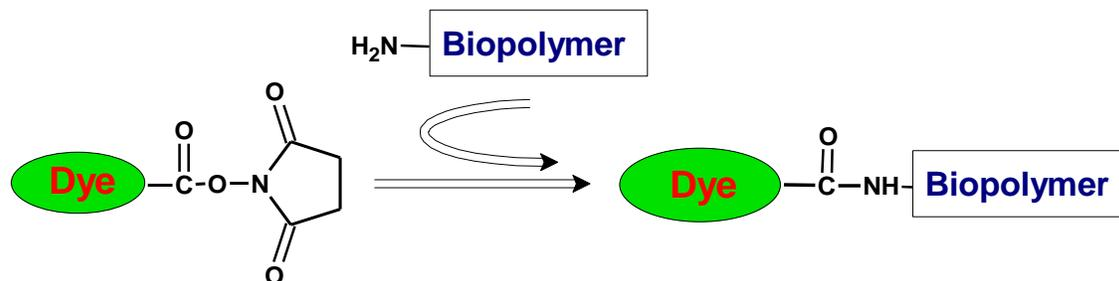

Figure 1. Labeling of an amino group (for instance, a lysine) on a biopolymer (i.e., a protein) with a succinimidyl ester of a dye.
The AnaTag™ AMCA-X Protein Labeling Kit provides a convenient way to label proteins by using the succinimidyl ester (SE) reactive form of AMCA-X. AMCA-X SE (6-((7-Amino-4-methylcoumarin-3-acetyl)amino)hexanoic acid, succinimidyl ester) is one of the most popular blue fluorophores used to label proteins. Succinimidyl ester shows good reactivity and selectivity with aliphatic amines of the protein and forms a carboxamide bond, which is identical to, and is as stable as the natural peptide bond (Figure 1). AMCA-X succinimidyl ester contains a seven-atom aminohexanoyl spacer, the so-called 'X' spacer, between the fluorophore and the reactive group. It is well known that the spacer between the fluorophore and the reactive group, which separates the fluorophore from the biomolecule to which it is conjugated, potentially reduces the quenching that typically occurs upon conjugation. In some cases, the 'X' spacer allows the dye to be more available for recognition by secondary detection reagents.